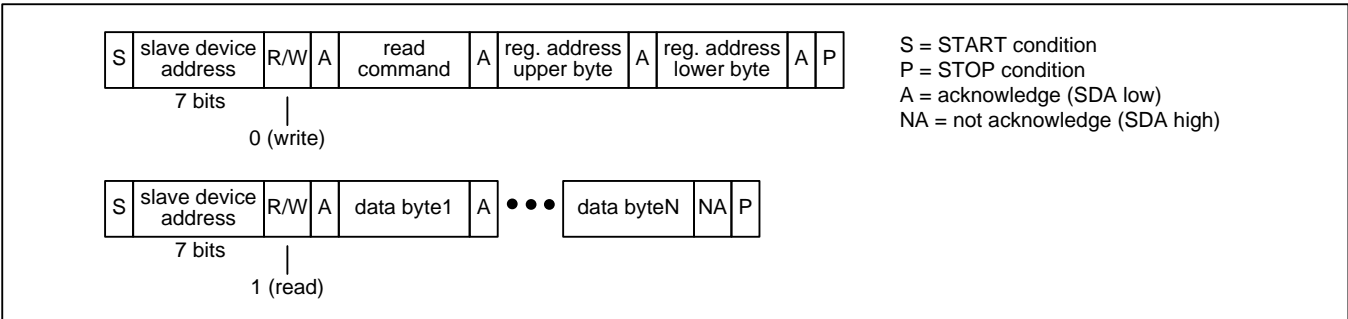
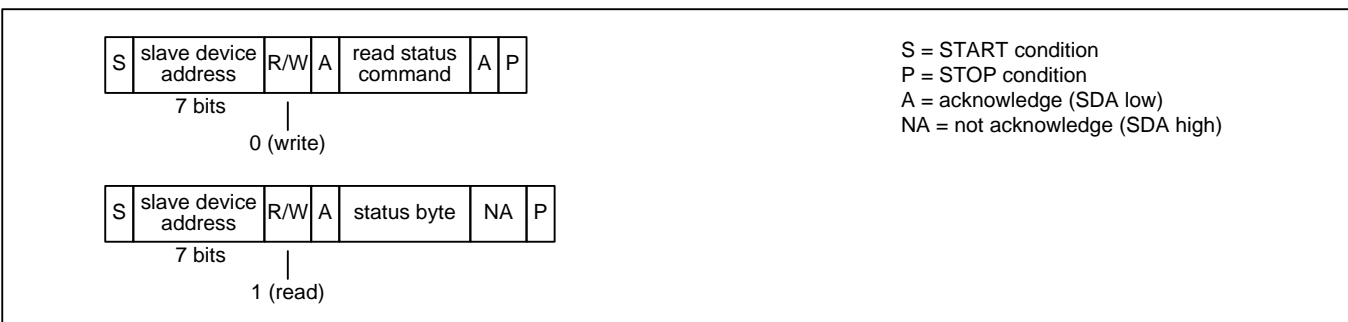

Figure 9 - I²C Read Transaction Functional Timing
Figure 12 - I²C EEPROM Read Status Transaction Functional Timing (ZL30261 and ZL30263 Only)
Read Transactions. The device registers are accessible when the **EESEL** bit is 0. On ZL30261 and ZL30263 the internal EEPROM memory is accessible when the **EESEL** bit is 1. On ZL30260 and ZL30262 the **EESEL** bit must be set to 0. The bus master first does an I²C write to the device. In this transaction three bytes are written: the SPI Read command (see Table 3), the upper byte of the register address, and the lower byte of the register address. The bus master then does an I²C read. During each acknowledge (A) bit the device fetches data from the read address and then increments the read address. The device then transmits the data to the bus master during the next 8 SCL cycles. The bus master terminates the read with a not-acknowledge (NA) followed by a STOP condition (P). See Figure 9. After the I²C write there can be unlimited idle time on the bus before the I²C read, but the device cannot tolerate other I²C bus traffic between the I²C write and the I²C read. Care must be taken to ensure that the I²C read is the first command on the bus after the I²C write to ensure the two-part read transaction happens correctly.
EEPROM Read Status (ZL30261 and ZL30263 Only). The bus master first does an I²C write to transmit the SPI Read Status command (see Table 3) to the device. The bus master then does an I²C read to get the status byte. In this byte, the least significant bit is set to 1 if the transfer is still in progress and 0 if the transfer has completed. See Figure 12. Similar to read transactions described above, the I²C write and the I²C read cannot be separated by other I²C bus traffic.
Note: In Figure 9 through Figure 12, a STOP condition (P) immediately followed by a START condition (S) can be replaced by a repeated START condition (Sr) as described in the I²C specification.